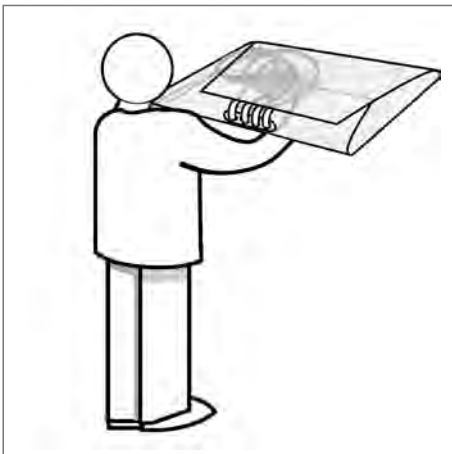

Figure 48
- Hold the folded bag on both arms with the magnetic clamp assembled to the centering aligner at the bottom and the 4-port system in front of you (see Fig. 48)